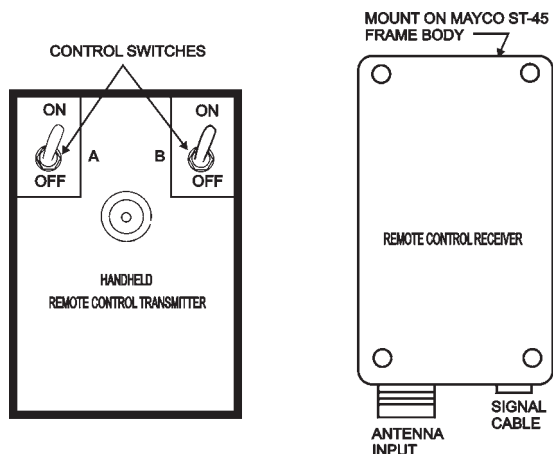

Figure 34. Handheld Receiver/Transmitter
14. The MAYCO ST-45 Concrete Pump has a remote control feature that allows the pump to be remotely controlled. If desired, the pump can be operated via a receiver/transmitter method (Figure 34) or a hardwire method, which utilizes a 25-ft. extension cable. The manual remote cord (Figure 35) should be installed under the main control box. Contact your MAYCO representative for further information.